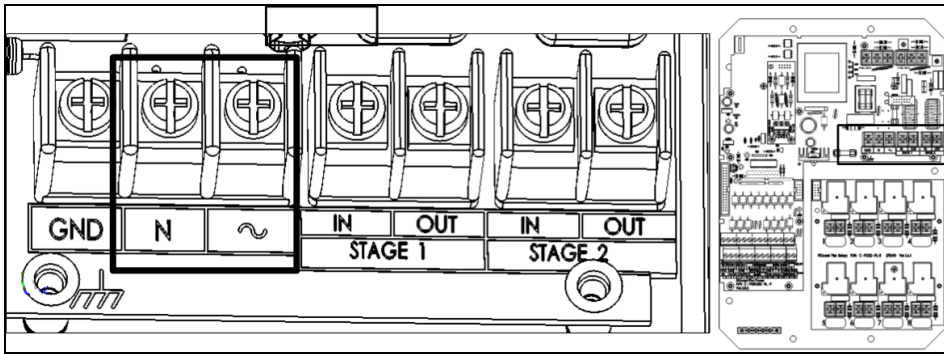

Figure 4: Input power ports
5. Using the voltmeter, place the probes on \sim and **N** (Figure 4). The voltmeter displays the Pig Guard voltage power input.